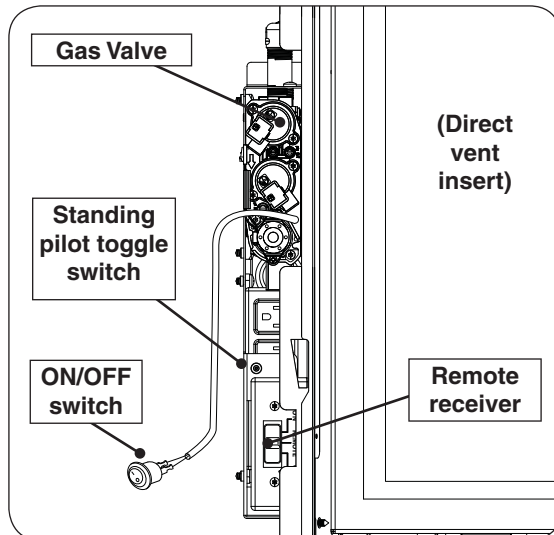
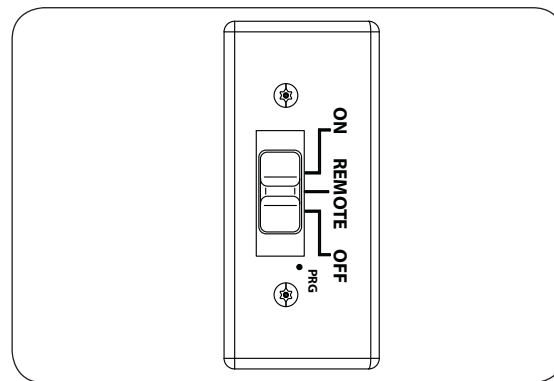
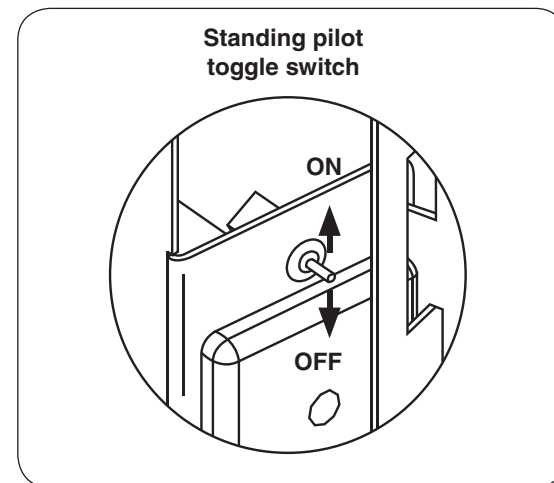

Fig. 29-1 Control box (left side of unit)
Fig. 29-2 Remote receiver detail
Fig. 29-3
1. The control box is on the left side of the unit. Locate the remote receiver on the control box (see Fig. 29-1). Slide the 3-position switch on the receiver to the **REMOTE** position (see Fig. 29-2).
2. Locate the standing pilot toggle switch on the control box (Fig. 29-1). Flip switch to the **ON** position (Fig. 29-3). You will hear a series of clicks and after a few seconds, you will hear sparking at the pilot spark electrode.